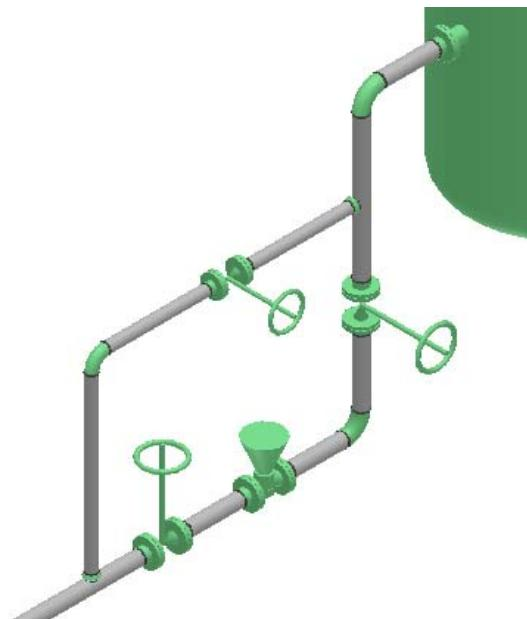

Figure 43: Placed Instrument
26. Click **Finish** on the **Insert Component** ribbon to place the instrument, as shown in Figure 43.